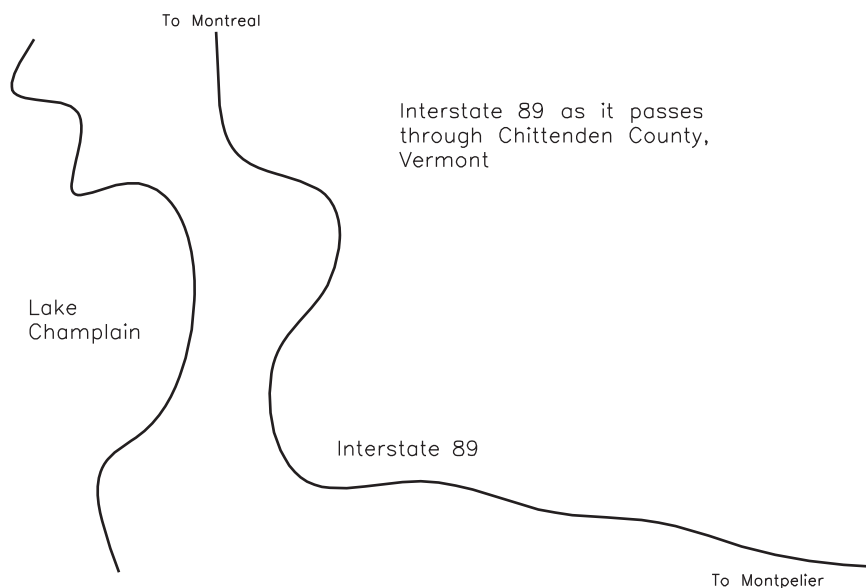

Fig. 15-15
1. Use the **SPLINE** command to approximate the route of Interstate 89 as it passes through Chittenden County, Vermont, as shown in Fig. 15-15. Include the Lake Champlain shoreline, but do not include the text. Save the drawing as **89.dwg**.